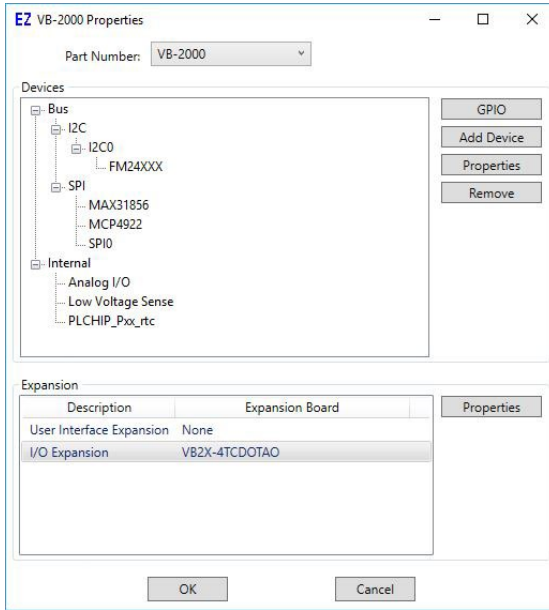

Figure 2-2 - VB-2000 Properties Window
3. Verify the VB2X-4TCDOTAO expansion board is installed.. Refer to Figure 2-2.
4. In the **Devices Pane**, click the **MAX31856** under the SPI heading. Refer to Figure 2-2.